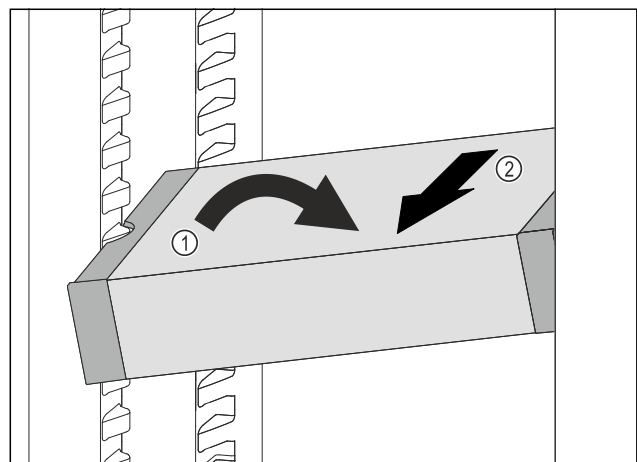

Fig. 92
- ▶ Set VarioSafe in refrigerator compartment at an angle. Fig. 92 (1)
- ▶ Take VarioSafe out to the front. Fig. 92 (2)